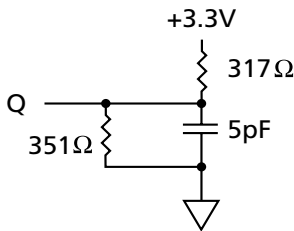
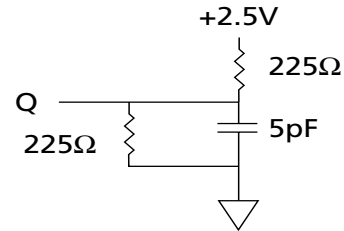

Figure 2
Figure 4
- The load used for V_{OH} , V_{OL} testing is shown in Figure 4 for 2.5V I/O. AC load current is higher than the shown DC values. AC I/O curves are available upon request.
3. This parameter is measured with output load as shown in Figure 2 for 3.3V I/O and Figure 4 for 2.5V I/O.